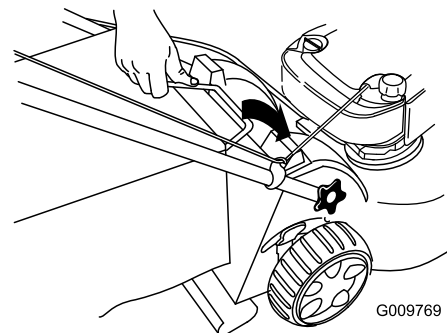

Figure 21
3. Insert the grass-bag handle into the grooves at the top of the machine (Figure 21).